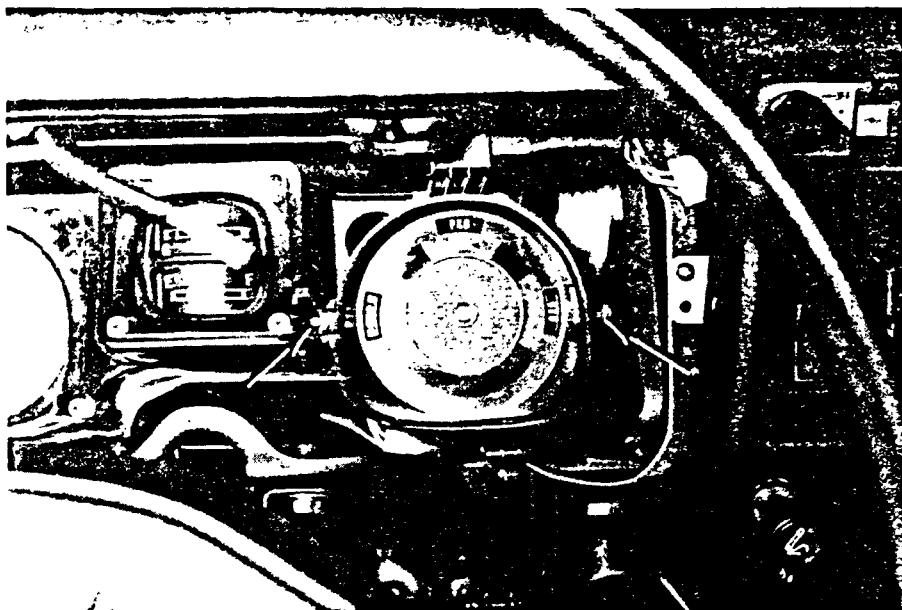

*FIGURE 2 – Meter Cover attaching screws*
1. Remove the seven (7) screws attaching the meter cover to the dash as shown in figure 2. Disconnect the directional signal indicator lamps connector, shown in figure 3, from the dash wiring harness and move the meter cover out of the way.